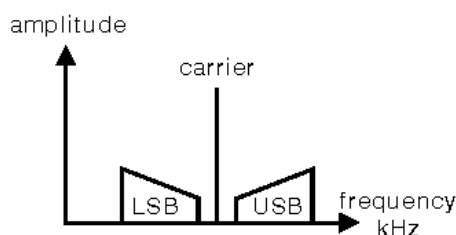

Fig. 5
A speech-input "amplitude modulated" (AM) transmission can be shown as Fig. 5 using the diagrammatic "wedge" symbol. Speech is made up of many different audio frequencies - a band of audio frequencies. Here is a radio frequency carrier signal with two adjacent "sidebands" - the wedges shown above and below the carrier frequency - each indicated here as USB (upper sideband) and LSB (lower sideband). The energy of the AM signal is contained in these three components - the lower sideband, the carrier, and the upper sideband.